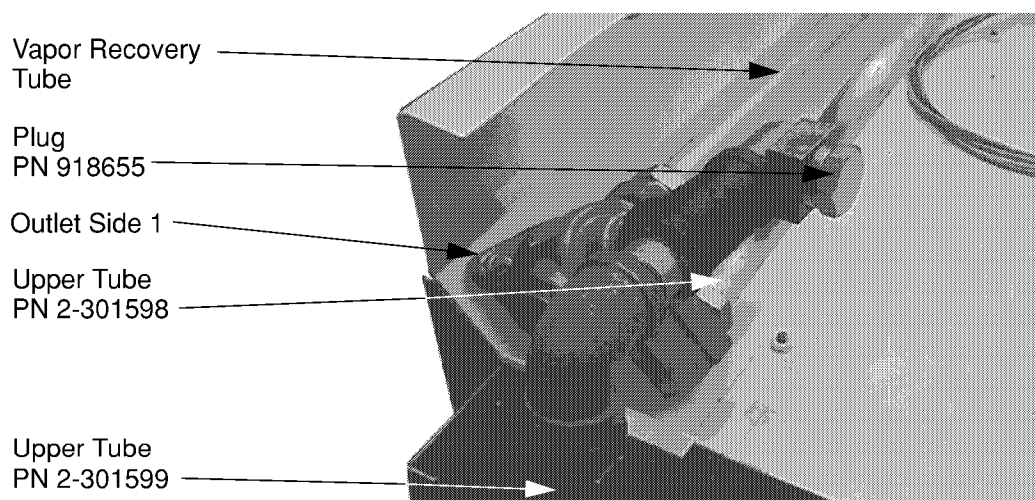

Figure 3-3 Upper Tube Connections Side 1
5. Install the upper tubing from the valves to the outlet assemblies according to the following table. See also Figures 3-3 and 3-4.
6. Install 2 plugs PN 918655 from the kit into the unused tube connections on the outlets for side 1 and side 2. See Figures 3-3 and 3-4.